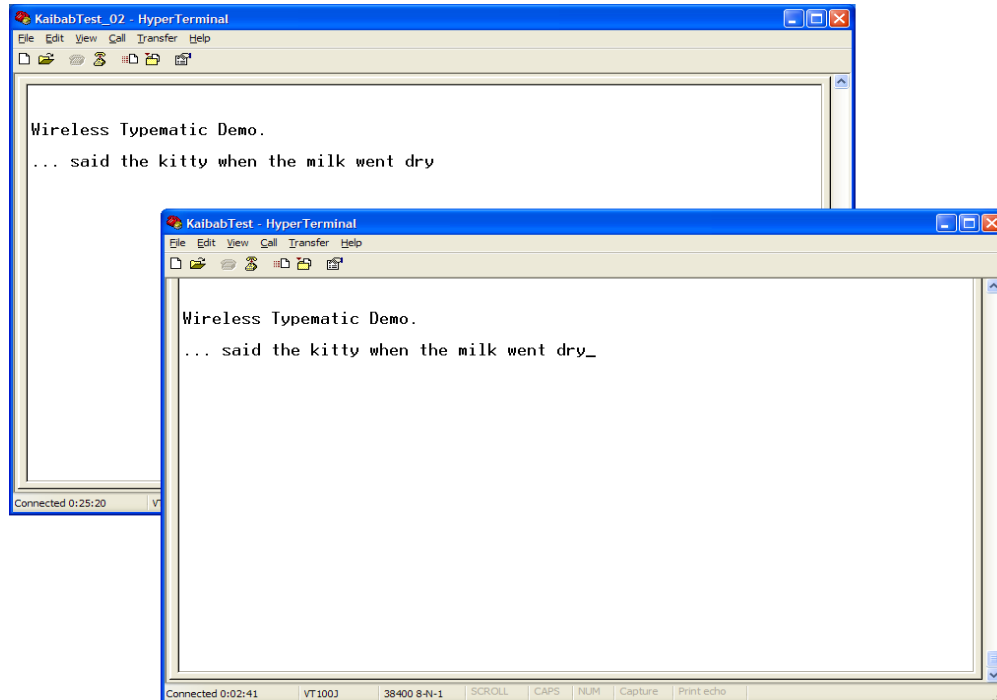

Figure 2-7. Wireless UART Board 1 (Sending) and Board 2 (Receiving)
8. Type some characters in the Hyper Terminal Session (Board 1, shown in Figure 2-7) and the typed message appears on the other PC Hyper Terminal Session (Board 2, also shown in Figure 2-7).